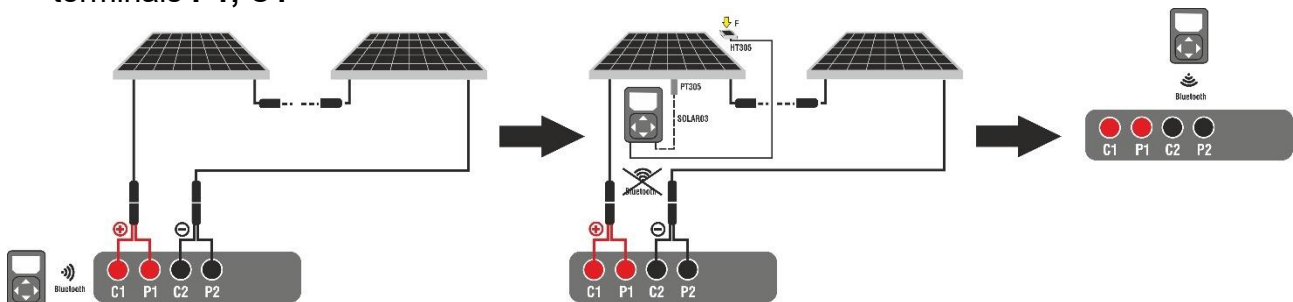
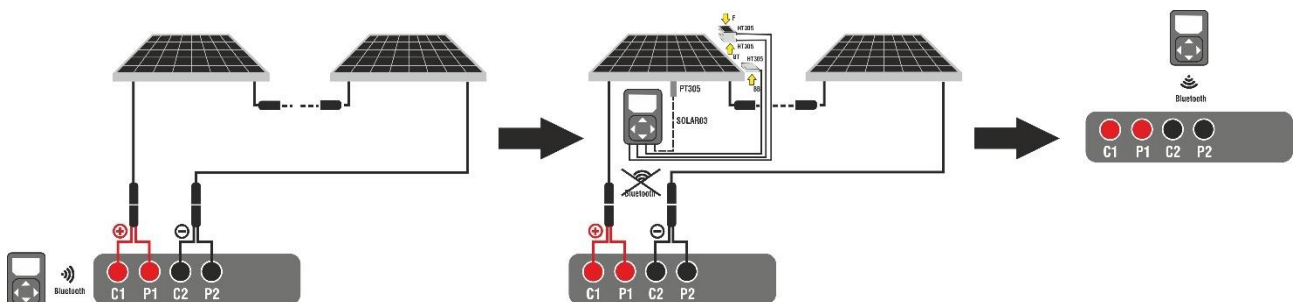

Fig. 47: Connection with SOLAR03 in synchronous recording on Monofacial modules
Fig. 48: Connection with SOLAR03 in synchronous recording on Bifacial modules
2. Connect the instrument to the module/string being tested as shown in Fig. 47 (Monofacial modules) or Fig. 48 (Bifacial modules). In detail, connect the negative pole output of the module/string to terminals **P2, C2** and the positive pole output of the module/string to terminals **P1, C1**
3. Move the SOLAR03 remote unit close to the instrument as shown in Fig. 47 or Fig. 48 – left side part
8. **Move the remote unit close to the modules** and connect the irradiance and temperature probes (if necessary) as shown in Fig. 47 or Fig. 48 – middle side part. In particular:
- **In case of Bifacial modules**→, position the **three HT305 reference cells** on the front surface of module (**F**), on the top back section(**BT=BackTop**) and on the bottom back section (**BB=BackBottom**) of the module. Connect the front reference cell (F) to input “**INP1**”, BT reference cell to input “**INP2**”, BB reference cell to input “**INP3**” and **possibly** the temperature probe **PT305** to input “**INP4**” of the remote unit. In accordance with the IEC/EN60904-1-2 standard, the instrument calculates the equivalent front-side Irradiance (**Irr_{eq}**) value, which corresponds to the Irradiance on the front surface only, which produces the same effects as the Irradiance measured on both sides, considering the **bifaciality factor** (φ) of the module according to the following relationship:
18. **At the end of the test session**, disconnect the SOLAR03 remote unit and move it back close to the instrument (se Fig. 47 or Fig. 48 – right side part)